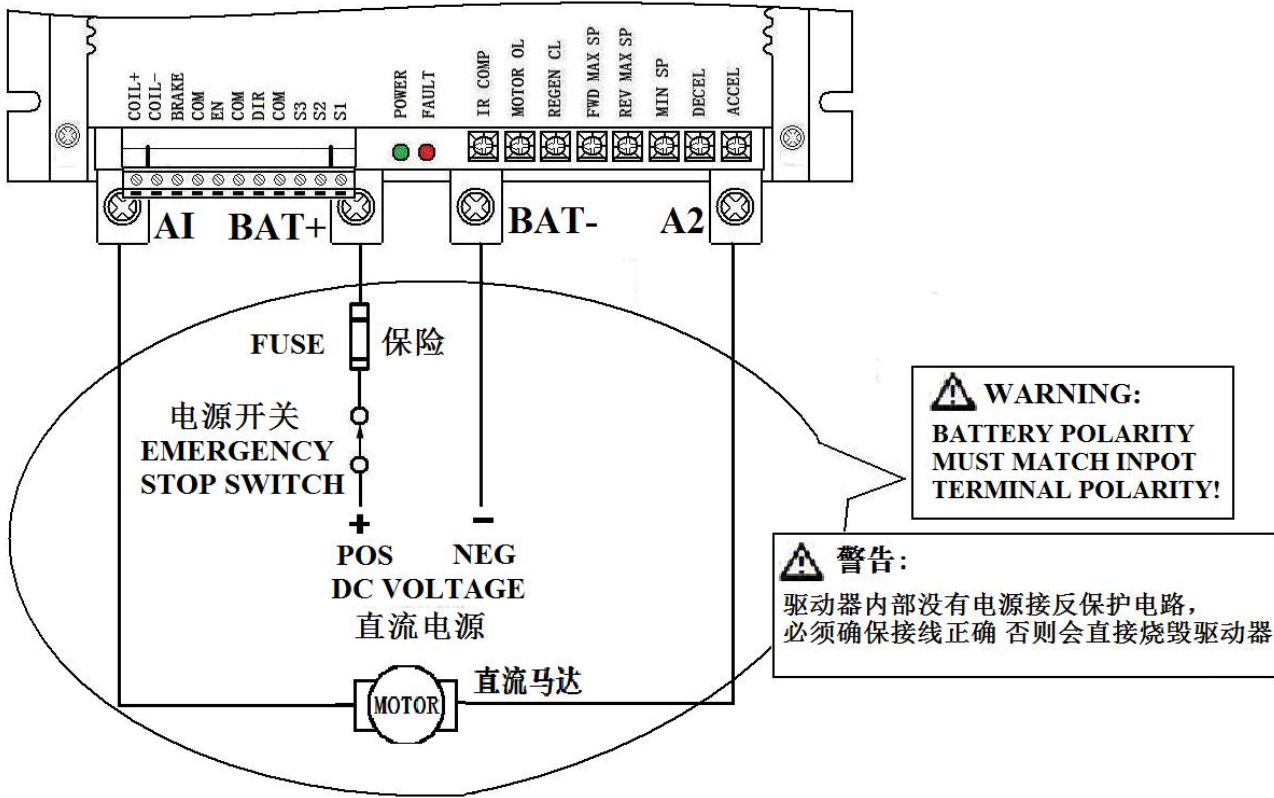

Figure 3
1. One piece of quick-blowing fuse and power supply emergency switch must be added between power input port of motor controller and power supply in sake of emergency power off in some case. (See Figure 3)
A1 and A2— terminals connected motor controller with DC motor are in Figure 3, please see it.
- C. Adjust external speed setting potentiometers to Max.value(potentiometers contacted with"S1,S2 and S3" in Figure 3).